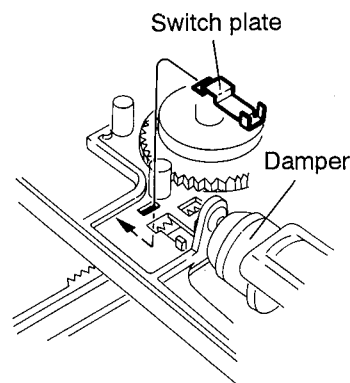

Fig. 4-11
**Note 1.** Since the switch plate under the switch P.C. board may sometimes be removed during the services, be sure to check the switch plate at the time of reassembly (See Fig. 4-11).